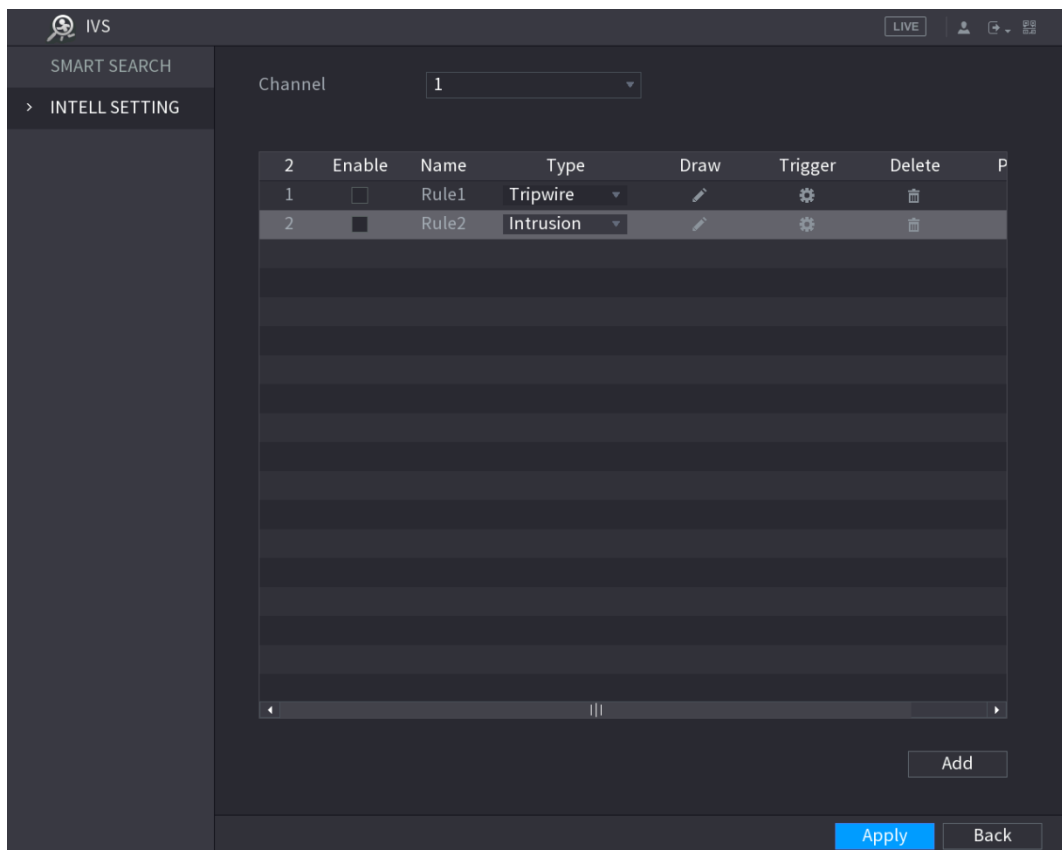

Figure 5-147
**Step 1** On the rule line that you added, in the **Type** list, select **Intrusion**. See Figure 5-147.